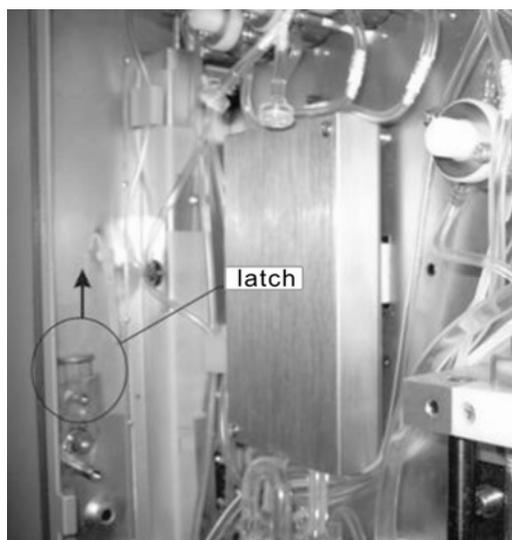

Figure10-24
4. Lift up the front panel latch as indicated in Figure10-24 and open the front panel.